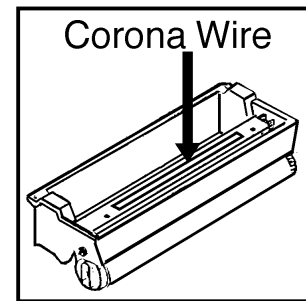

Figure 2
2. Remove the corona wire assembly (1 plastic pin). Clean the tungsten wire with a Scotchbrite® pad and the cage with a foam tip applicator and denatured alcohol (Fig. 2).